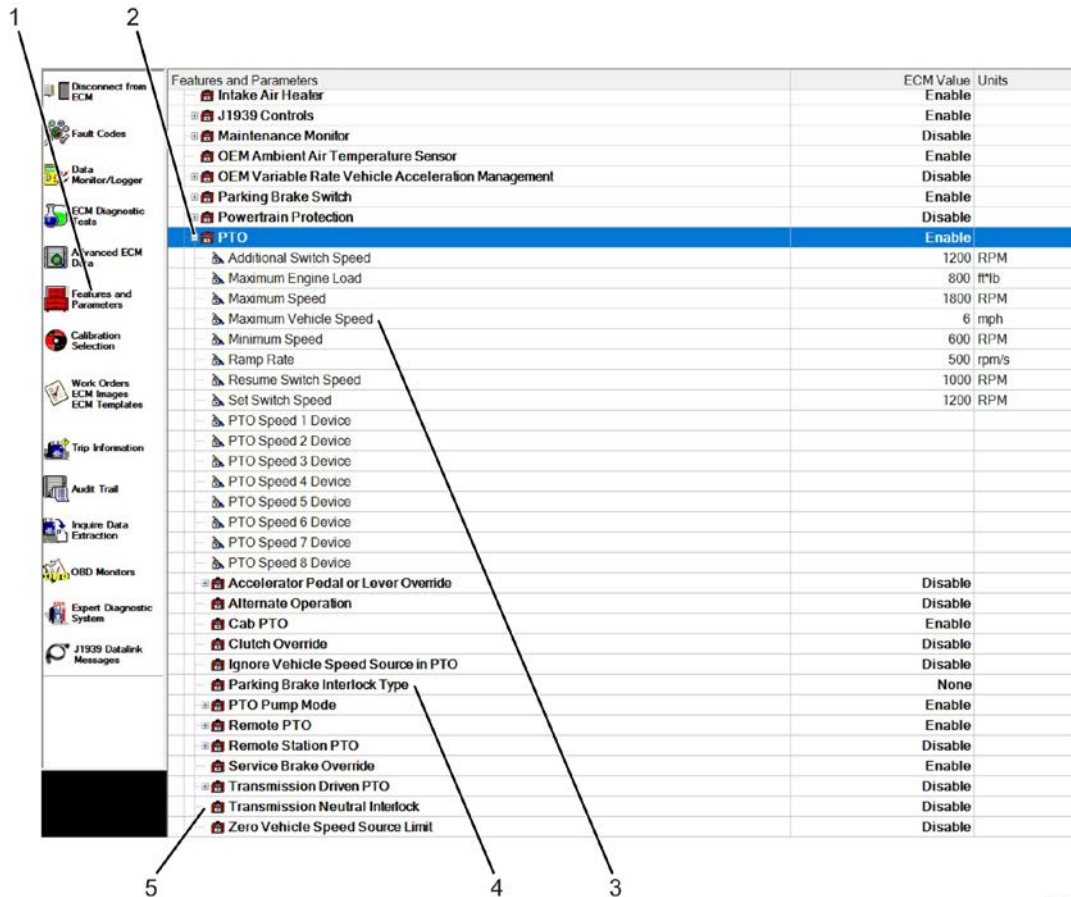

Figure 1. PTO Parameters
9. Select FEATURES AND PARAMETERS button (Figure 1, Item 1).
10. Scroll to PTO menu (Figure 1, Item 2).
- a. Maximum Vehicle Speed: 2 mph (3.2 km/h) (Figure 1, Item 3).
- b. Parking Brake Interlock Type: ALL (Figure 1, Item 4).
- c. Transmission Neutral Interlock: ENABLE (Figure 1, Item 5).